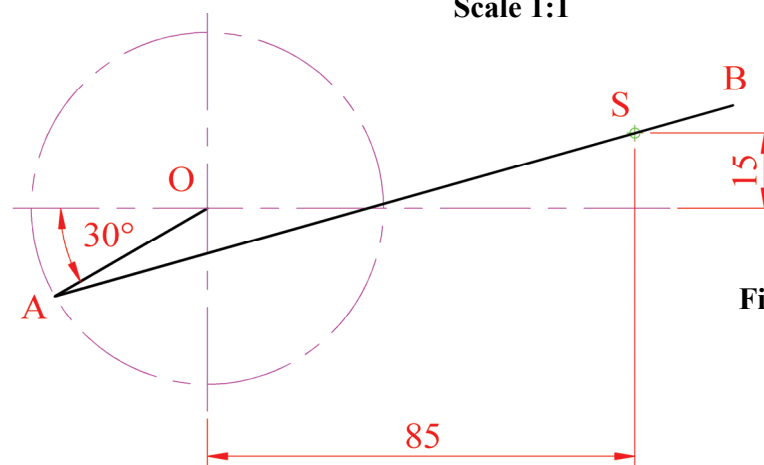

Fig. C-4(a)
- (b)** The 3D graphic on the right shows a radial plate cam, which is used in the steam engine. A 2D drawing of the cam is shown in Fig. C-4(b) below.